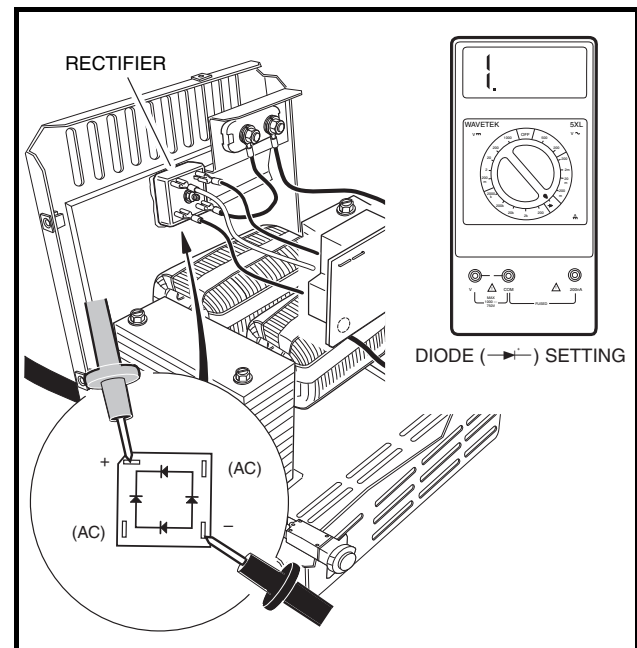

Figure 6-19 Rectifier Test – Probes Reversed
5. Using a multimeter set to the diode test function ($\rightarrow|$), place the black (–) probe of the multimeter on the negative (–) terminal of the rectifier. Move the positive (+) probe to each of the remaining three rectifier terminals and note the readings (**Figure 6-19, Page 6-20**). The multimeter should indicate an overload (no continuity) for all three of the remaining rectifier terminals. If any other reading is indicated, the rectifier has failed and must be replaced.